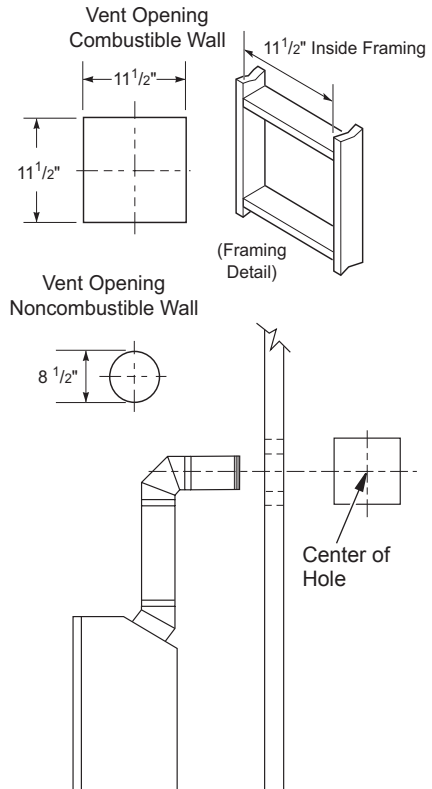
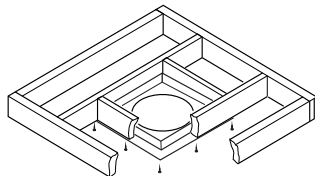

Figure 9 - Vent Opening Requirements
Figure 20 - Installing Firestop
5. Carefully determine location where vent pipe assembly will penetrate outside wall. Center of hole should line up with center line of horizontal vent pipe. Mark wall for a 11 1/2" x 11 1/2" square hole. Cut and frame square hole in exterior wall where vent will be terminated. If wall being penetrated is constructed of non-combustible material, such as masonry block or concrete, a 8 1/2" hole with zero clearance is acceptable (see Figure 9).
should be framed to 11 1/2" x 11 1/2" inside dimensions, as shown in Figure 9 on page 10 using framing lumber the same size as ceiling joists. If area above ceiling is an insulated ceiling or an attic, nail firestop from top side. This prevents loose insulation from falling into required clearance space. If area above ceiling is a living space, install firestop below framed hole. Firestop should be installed with no less than three nails per side (see Figure 20).
3. Cut a hole in the roof using locating hole as a center point. (Cover any exposed open vent pipes before cutting hole in roof.) The 11 1/2" x 11 1/2" hole must be measured on the horizontal; actual length may be larger depending on pitch of roof. There must be a 1" clearance from vent pipe to combustible materials. Frame opening as shown in Figure 9, page 10.